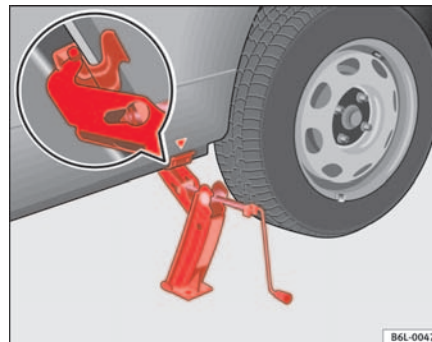

Fig. 143 Fitting the jack
- Align the jack so that the arm of the jack fits around the rib under the door sill and the movable base plate of the jack is flat on the ground ⇒ fig. 143.